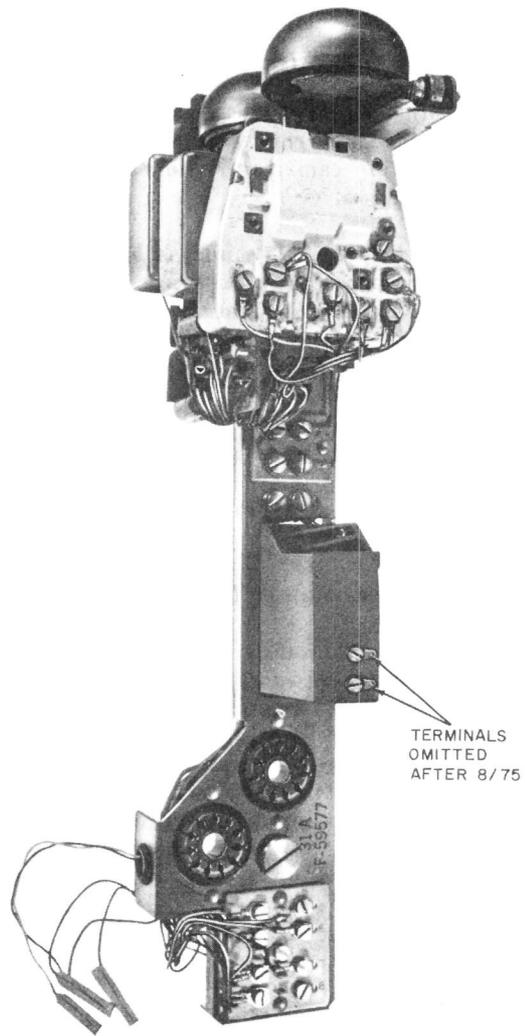

Fig. 14—31A Coin Chassis—For Use in 1C/2C-Type Sets
3.19 The 1A (SF) coin chassis used in 1C/2C-type sets can be replaced with a 31A (DF) coin chassis (Fig. 14).